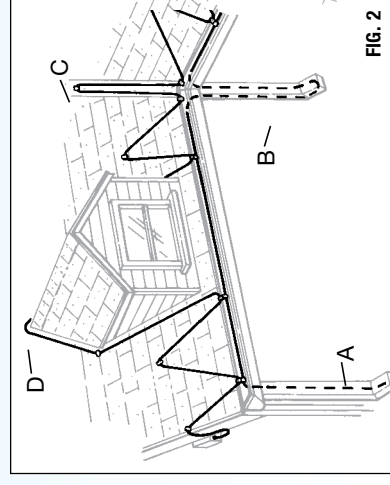

FIG. 2
- 2 Add cable for downspout (A in figure 2). NOTE: if a downspout is located anywhere other than at the end of the cable routing, that downspout will require double length of cable (B in figure 2).
- 3 Add extra cable for valleys (6' per valley, C in figure 2) and around dormers (D in figure 2).